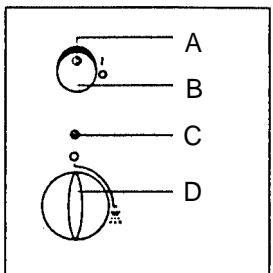

FIGURE 9
5. **Switch on the appliance (Figure 9).**
Plug appliance into a 120V ~ 60 Hz outlet. Using the on/off switch (Figure 9/B), turn appliance on. The LED light (Figure 9/A) lights up.
5. Wait until the temperature indicator (Figure 9/C) lights up, indicating that the steam temperature has been reached.
Caution: During operation the temperature indicator (Figure 9/C) sometimes goes off. The required steam temperature is reached again within a short time by turning the Steam selector to the right (Figure 1D).
9. Turn the Steam selector to the right (Figure 9/D). This “vacuums” the milk out of the milk pitcher or container. It is then mixed with steam in the frothed milk spout, and at the same time heated and frothed. The frothed milk flows through the milk discharge outlet into the cup. Return Steam selector to “OFF” position to stop milk flow.